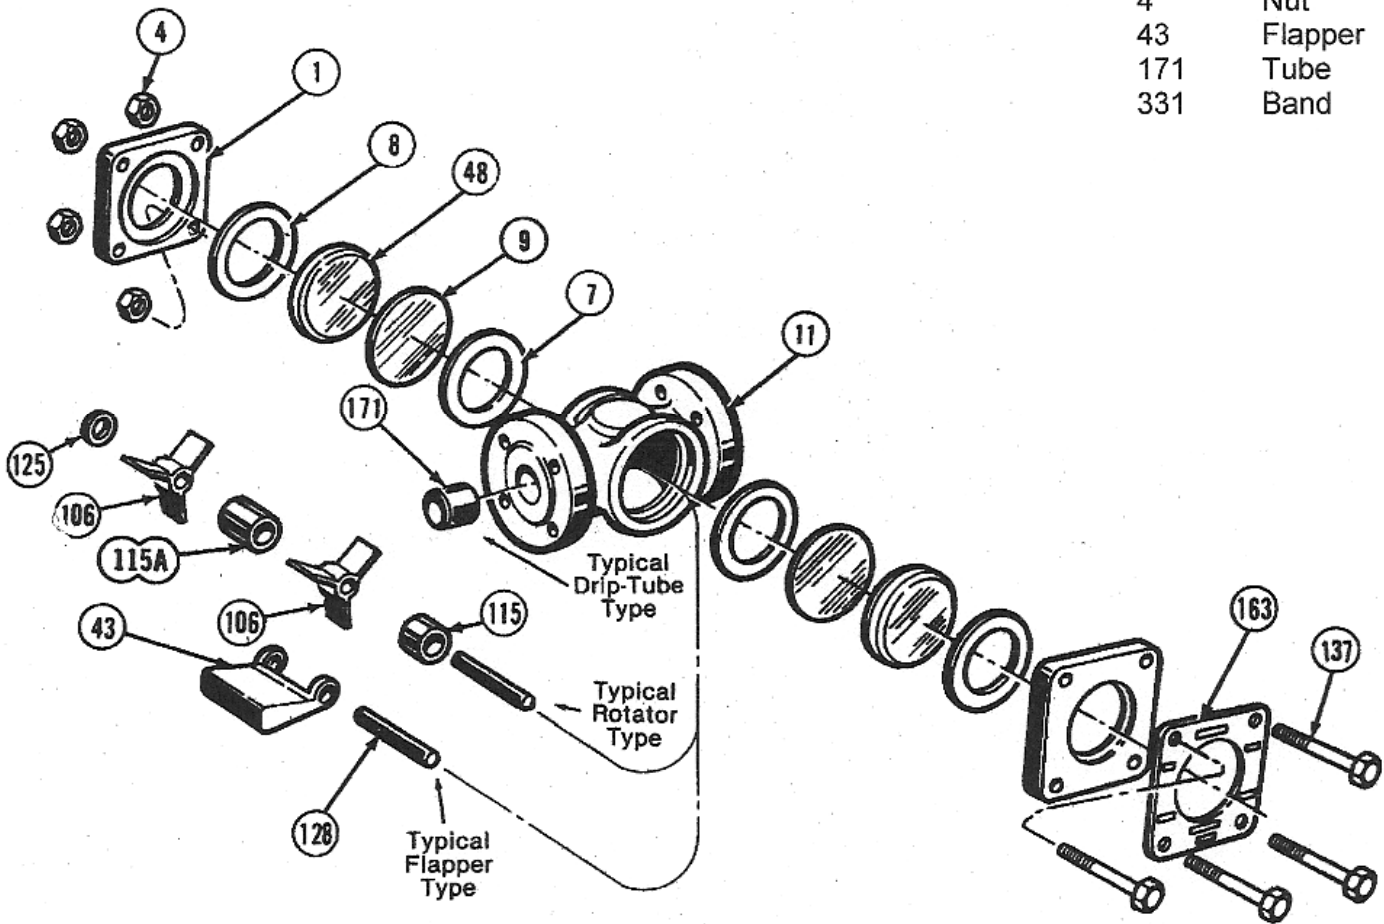

Figure 5
- A. Refer to exploded view, Figure 5.
- B. Prepare for installation of new glass (48) by first cleaning the gasket seating surfaces on body (11) and the cushion seating surfaces on the glass covers (1). This should be done using a soft metal scraper (preferably brass) to remove all burrs, rust, and bits of old gasket or cushion which may be present. Exercise extreme care to avoid gouging or scarring gasket or cushion seating surfaces.
- D. Place the sight flow indicator in a horizontal position and assemble the components as shown in exploded view Figure 5. Install band (331) around glass and place glass centered within the body and cover.
- E. Threads on bolts (137) and nuts (4) must be clean of paint, rust, and scale. Apply a light coat of oil to the threads and insert bolts through nameplate and two (2) covers, and install nuts finger tight.